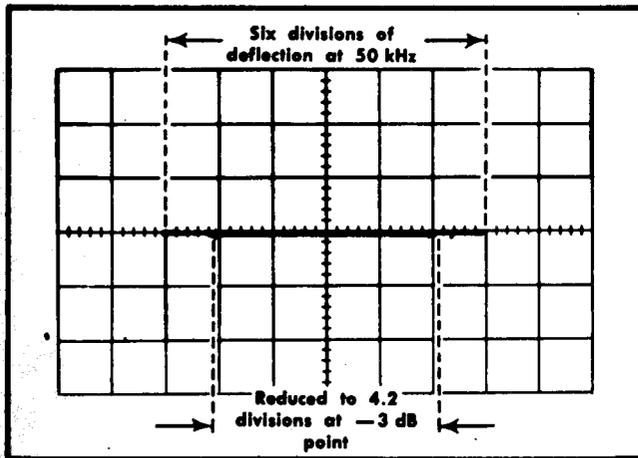

Fig. 5-26. Typical CRT display when checking external horizontal bandwidth (double exposure).
c. Without changing the output amplitude, increase the output frequency of the generator until the horizontal deflection is reduced to 4.2 divisions (-3 dB point; see Fig. 5-26).